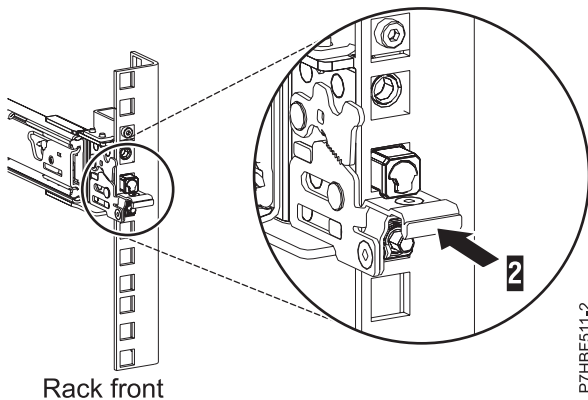

Figure 7. Front rail of the rack with latch seated
7. While pulling the slide rail forward, ensure that all three pins protrude through the rack holes, then push the front latch **(2)** all the way in, as shown in Figure 7.